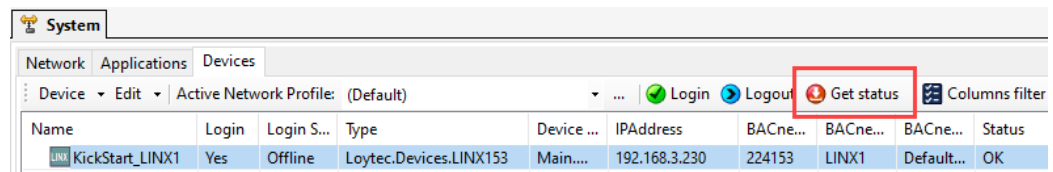

Figure 56: Test connection to the device resource.
23. To test click on the **Get status** button as shown in Figure 56. The **Status** column should now show **OK**.